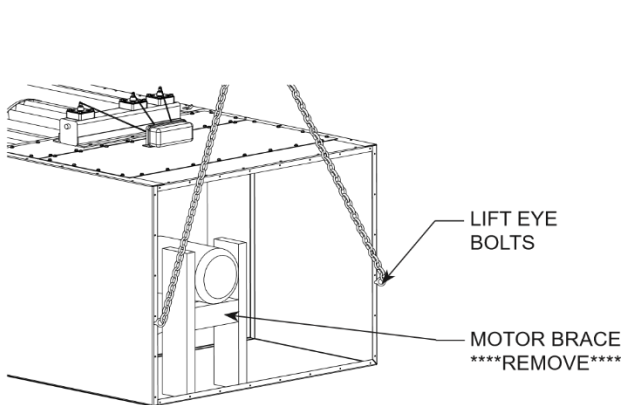

FIG. 1
2. Connect chain/lift straps to provided eye-bolts located on top of unit (See FIG. 1).
6. Remove wooden brace used to secure motor (See FIG. 1).